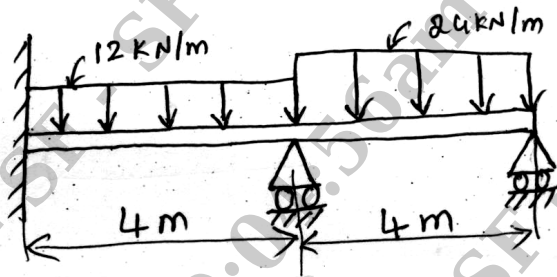

Fig Q7(b)
b. For the beam shown in Fig Q7(b), determine the deflection at mid span and determine the end reaction. Take $E = 200 \text{ GPa}$ and $I = 4 \times 10^6 \text{ mm}^4$